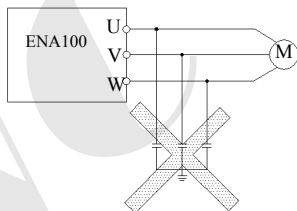

Fig.1-2 Capacitor at output side forbidden
(12) Forbid inverter output side to assemble capacitor to improve power factor or anti-thunder dependent resistor etc, otherwise it may cause inverter fault trip or component damage show as Fig.1-2.